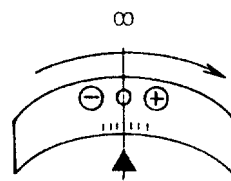

fig.3
- 3) Check if the test chart is properly positioned visible in the viewfinder as shown in figure 3, p.16.
Rotate the distance scale ring toward infinity and observe that the voltmeter reads 2V and then lower voltages. Stop the distance scale ring to the position where the voltmeter reads 0V. This is the start position. (fig.3)